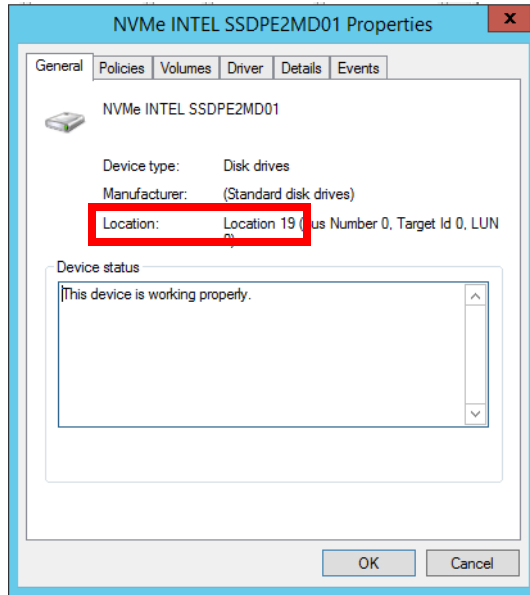

Figure 7-80 Properties window, General tab, disk location
- In the **Properties** window, on the **General** tab you can see the PCIe slot number of the associated NVMe drive, as shown in Figure 7-80: